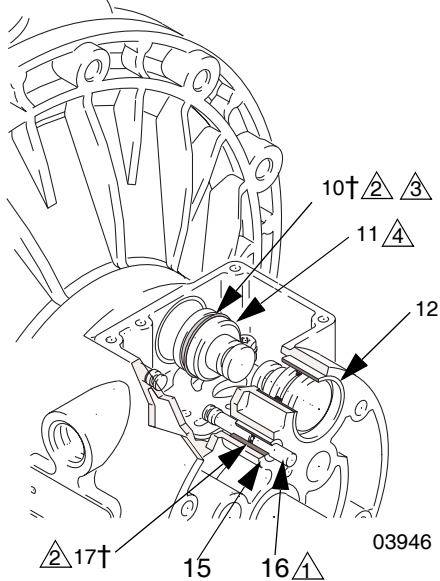

FIG. 8
4. Pull the two actuator pistons (11) out of the bearings (12). Remove the u-cup packings (10) from the pistons. Pull the pilot pins (16) out of the bearings (15). Remove the o-rings (17) from the pilot pins. See FIG. 8.
6. Inspect the bearings (12, 15) in place. See FIG. 8. The bearings are tapered and, if damaged, must be removed from the outside. This requires disassembly of the fluid section. See page 21.
4. Install an o-ring (17†) on each pilot pin (16). Grease the pins and o-rings. Insert the pins into the bearings (15), **narrow** end first. See FIG. 8.
5. Install a u-cup packing (10†) on each actuator piston (11), so the lips of the packings face the **narrow** end of the pistons. See FIG. 8.
6. Lubricate the u-cup packings (10†) and actuator pistons (11). Insert the actuator pistons in the bearings (12), **wide** end first. Leave the narrow end of the pistons exposed. See FIG. 8.